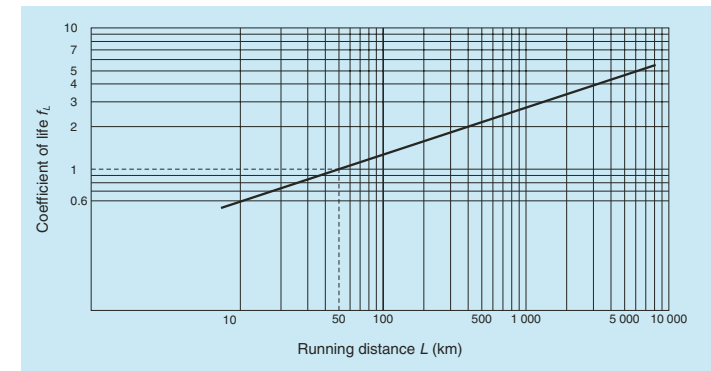
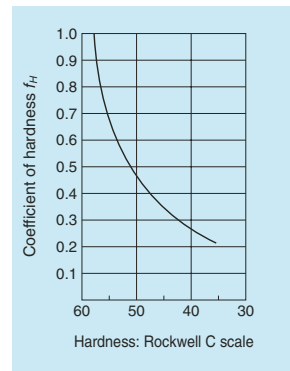

Fig. 5 Relationship between life factor and running distance
Fig. 6 Hardness factor
- P : Radial load (N)
- fL : Life factor (Refer to Fig. 5)
This formula is used provided that the shaft hardness is HRC58 or higher. Rated life is shorter if the shaft is softer. In this case, find the hardness factor *fH* from Fig. 6, and multiply the value.
From Fig. 5 and Fig. 6,